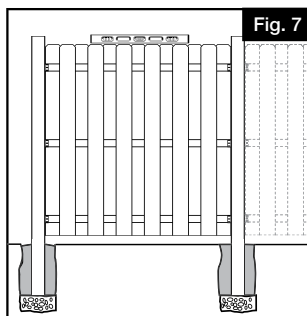

Fig. 7
- e. Level panel horizontally (Fig. 7).